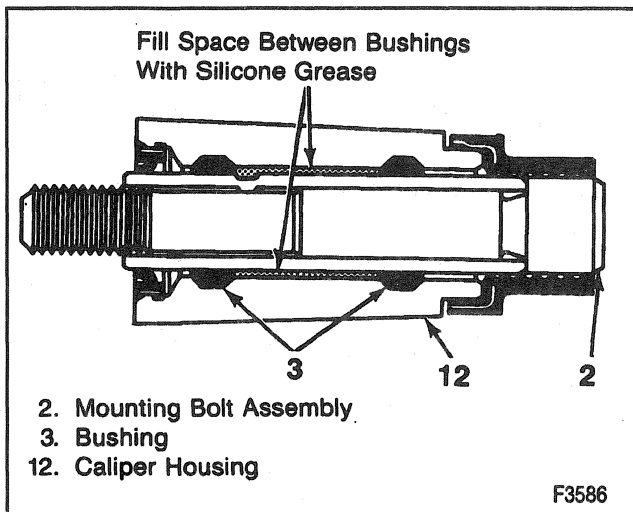

Figure 12—Mounting Bolt Lubrication (Delco 3400)
1. New bushings (3) and bolt seals (4).
2. Lubricate bushings (3) and mounting bolt seals (4) with GM P/N 18010909 or equivalent (Figure 12 or 13).
3. New bolt boots (1).
4. Caliper (12).
- Fill both housing cavities between bushings (3) with GM P/N 18010909 or equivalent (Figure 12 or 13).
5. Mounting bolt and sleeve assemblies (2).